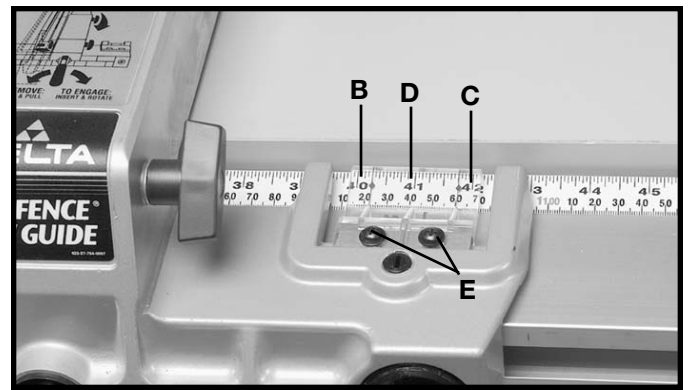

Fig. 72
5. The distance the fence is positioned away from the blade is indicated by the two witness lines (B) and (C) Fig. 72, located on the cursor (D). The witness lines (B) and (C) indicate the distance the fence is positioned away from the saw blade. Witness line (B) indicates the distance the fence is away from the blade when the fence is in the horizontal position, and witness line (C) indicates the distance the fence is away from the blade when the fence is in the vertical position. If it is necessary to adjust cursor (D), make a test cut with the fence in either the vertical or horizontal position, measure the distance of the finished cut and move the cursor (D) by loosening the two screws (E) Fig. 72. After adjustment is completed tighten the two screws (E).